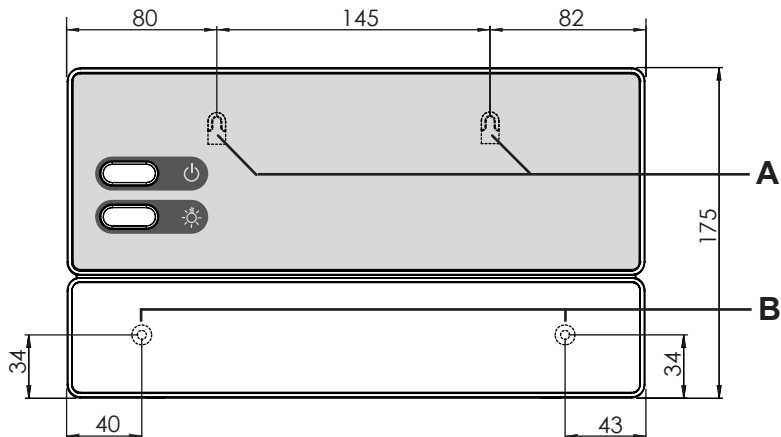

Fig.2 Position of the attachment device and the installation holes (dimensions in mm)
1. Screw two cross-head screws (16 mm) into the wall of the sauna at a height of approx. 1.70 m and leaving a protruding length of 7 mm. The two screws must be placed at a distance of 145 mm from each other (see **Fig.2**).
3. Fasten the sauna control unit onto the cross-head screws using attachment device **A** as an aid (see **Fig.2**).
4. Screw two cross-head screws (16 mm) into the lower fastening holes **B** (see **Fig.2**).